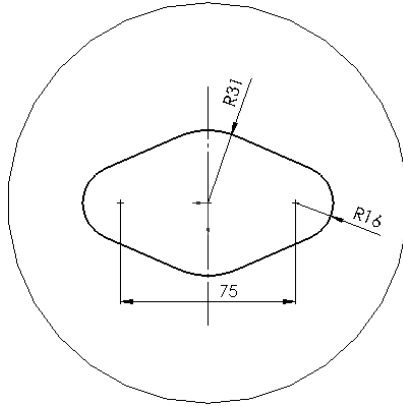

Figure 9-56 Sketch for the second feature
- Draw the sketch of the second feature on the top face of the base feature and extrude it to a given dimension, refer to Figures 9-56 and 9-57.
2. Draw the sketch of the second feature and apply the required relations and dimensions to it, as shown in Figure 9-56. Make sure that the sketch is symmetrical about the centerline. If it is not, the sketch will not be properly mirrored.